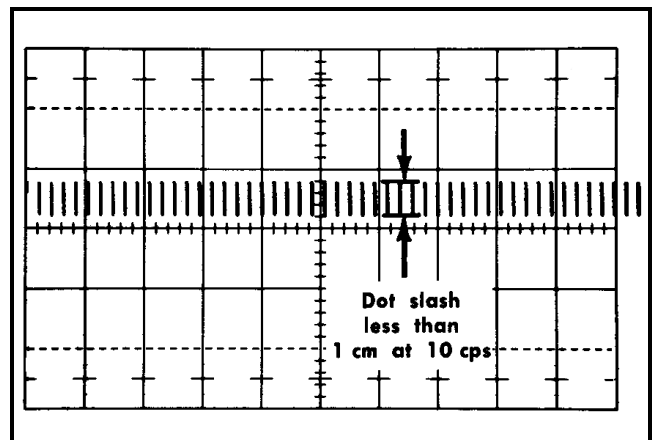

Fig. 5-51. Typical indicator oscilloscope display for checking memory drift. (Photograph is a timed exposure of a single sweep.)
i. Check the trace for vertical drift (dot slash) of 1 cm or less (see Fig. 5-51).